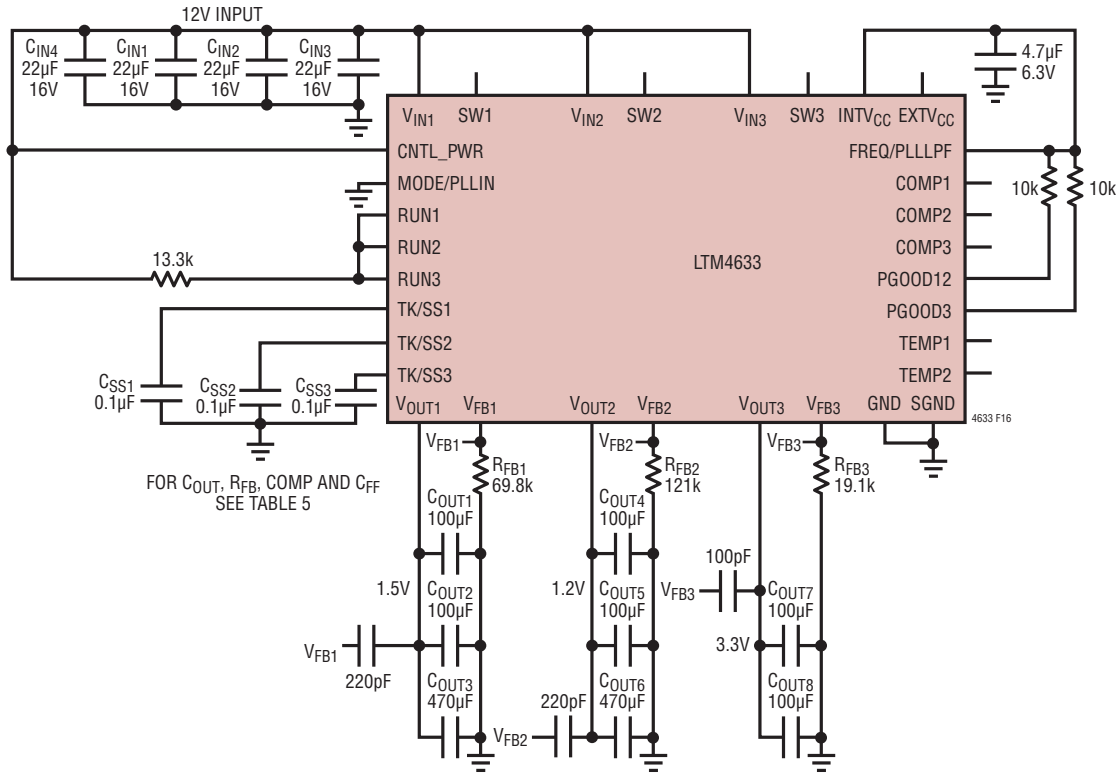

Figure 16. LTM4633 Typical 12V Input to 1.5V at 10A, 1.2V at 10A, 3.3V at 10A
**Table 5. Output Voltage Response Versus Component Matrix (Refer to Figure 16) 0 to 5A Load Step Typical Measured Values**